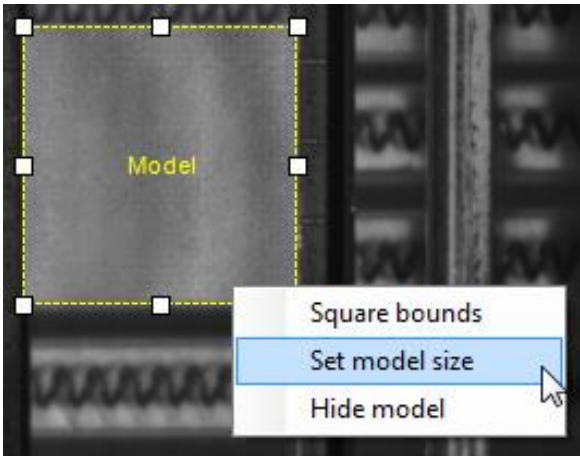

Figure 2.45 Set Model Size
4. Size the yellow 'Model' ROI so that it exactly contains one of the parts. Right click on the model ROI and select 'Set model size' (**Figure 2.45**).
6. Right click on the camera window and click Acquire (**Figure 2.45**). Parts will be named with a prefix of 'PT' and a serial number afterwards.